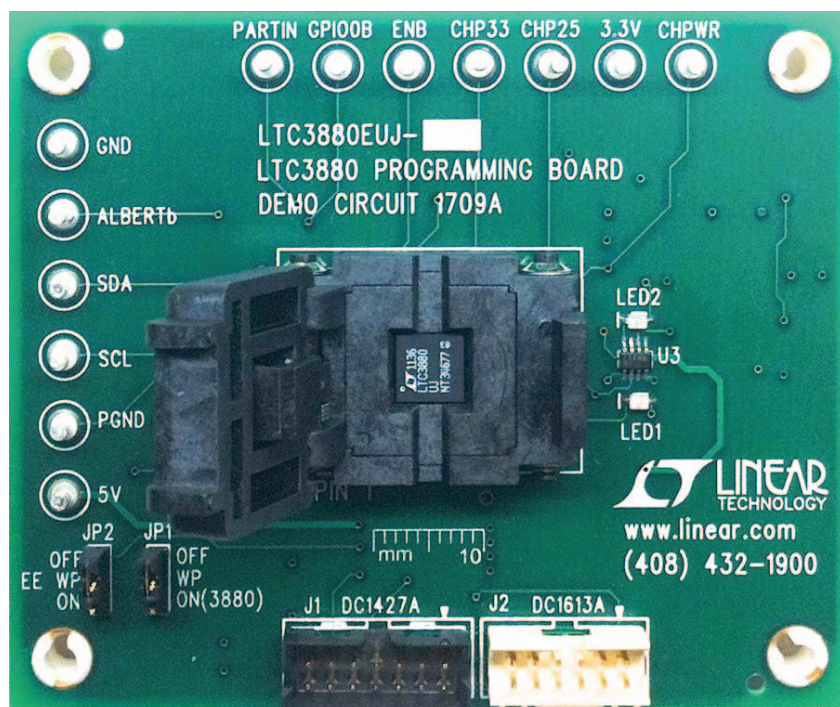

Figure 2. Open Shell. Verify IC Installed
2. Open the lid of the socket, SKT1. Verify there is an IC inside (see Figure 2).